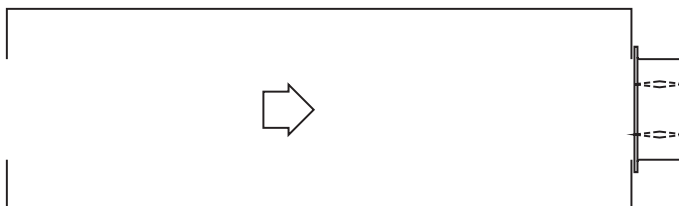

**Figure 5.3**
**Figure 5.3** Illustrates a fully ducted damper. This configuration has the lowest pressure drop of the three test configurations because entrance and exit losses are minimized by straight duct runs upstream and downstream of the damper.
**AMCA Figure 5.3**